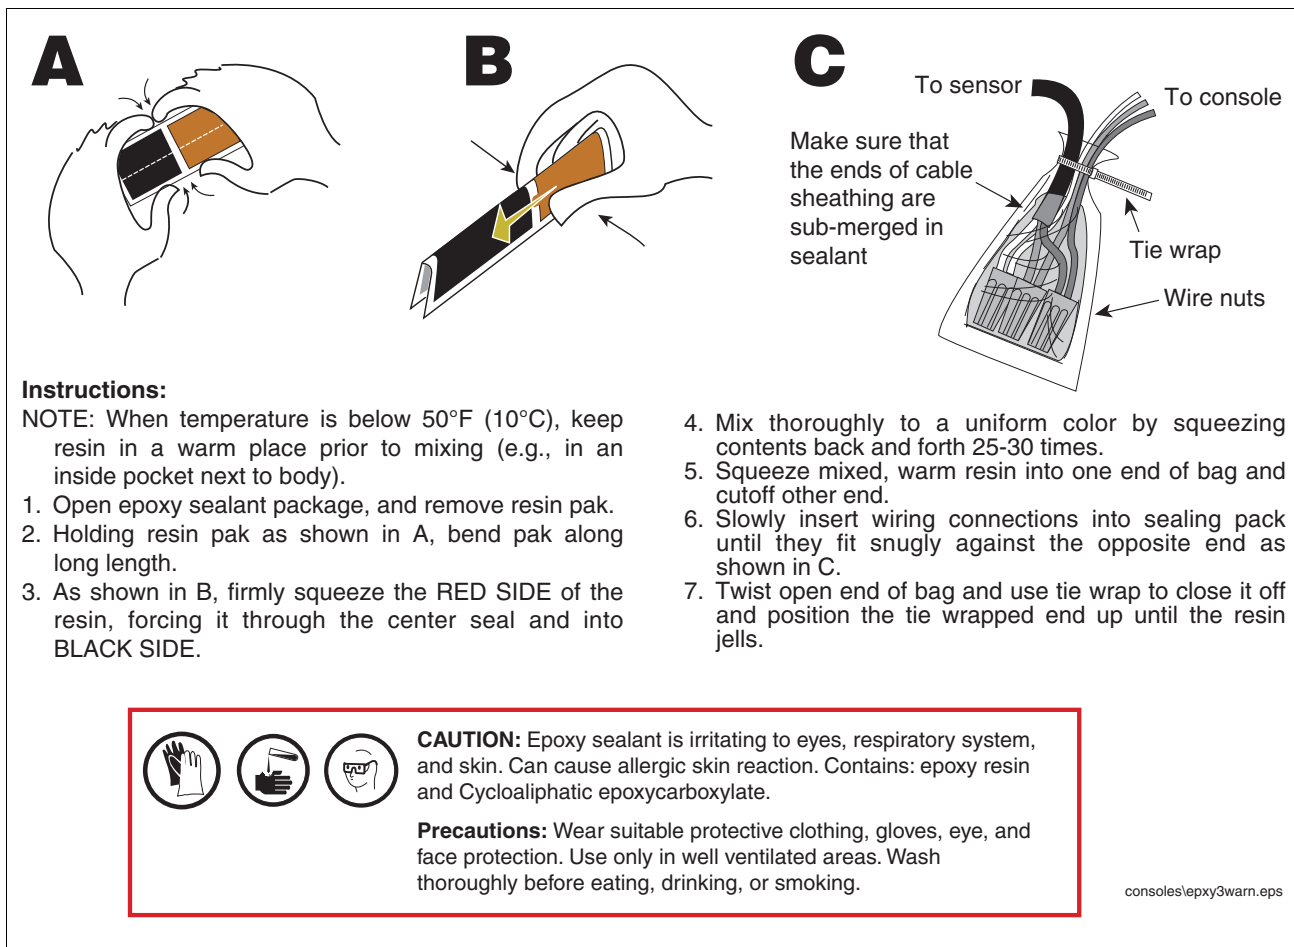

Figure 15. Epoxy sealing wiring connections
5. Seal wire nuts with epoxy sealant following the instructions in Figure 15.